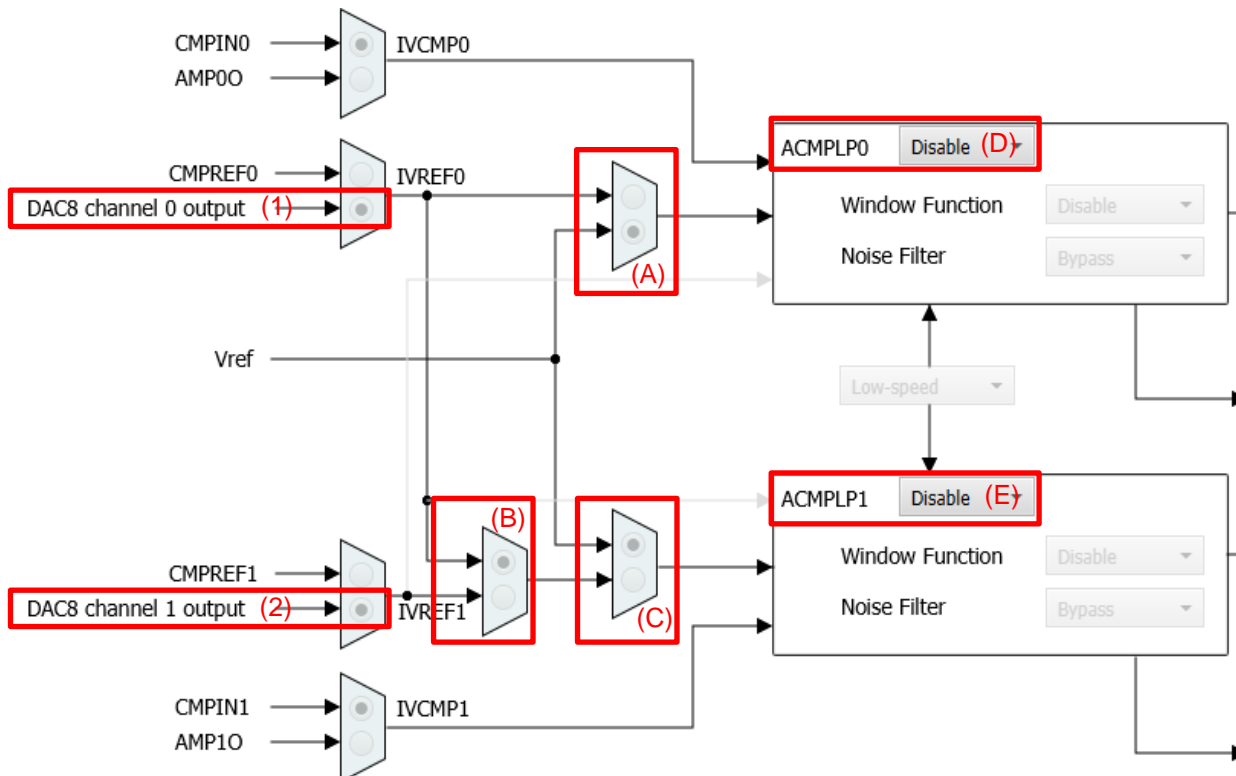

Figure 3-4 ACMLP1 example setting
- “DAC8 channel 0 output” is selected as ACMLP0 input (refer to figure3-4 (1))
- When switcher (A) selects Vref (refer to figure3-4 (A))
- When ACMLP0 is disabled (refer to figure3-4 (D))
- When switcher (B) selects IVREF0, switcher (C) selects Vref (refer to figure3-4 (B) and (C)) and ACMLP1 is enabled (figure3-4 (E) selects “Enable”)
- “DAC8 channel 1 output” is selected as ACMLP1 input (refer to figure3-4 (2))
- When switcher (B) selects IVREF0 (refer to figure3-4 (B))
- When switcher (C) selects Vref (refer to figure3-4 (C))
- When ACMPLP1 is disabled (refer to figure3-4 (E))